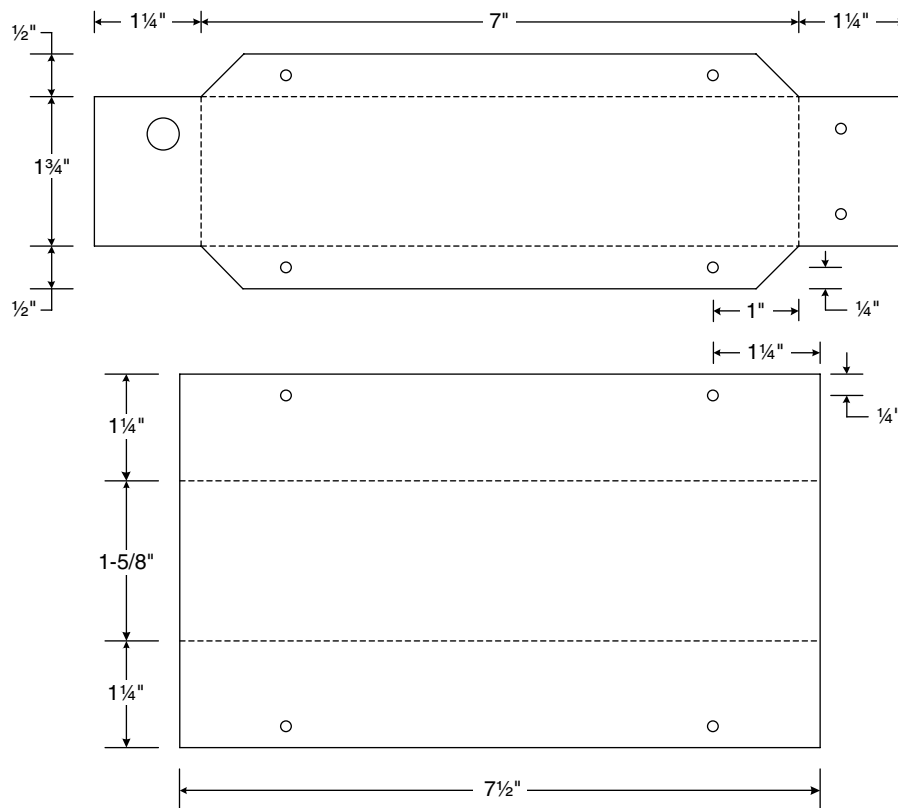

Figure 3-4 Bottom and top of PBK50 enclosure.
The enclosure to hold the PBK50 can be built from two pieces of bent plastic (Fig. 3-4) or by slipping the circuitry into a plastic tube that is at least 1.5 inches in inner diameter (ID) and 7 inches long (or whatever accommodates your perf board) with a couple caps on the ends of